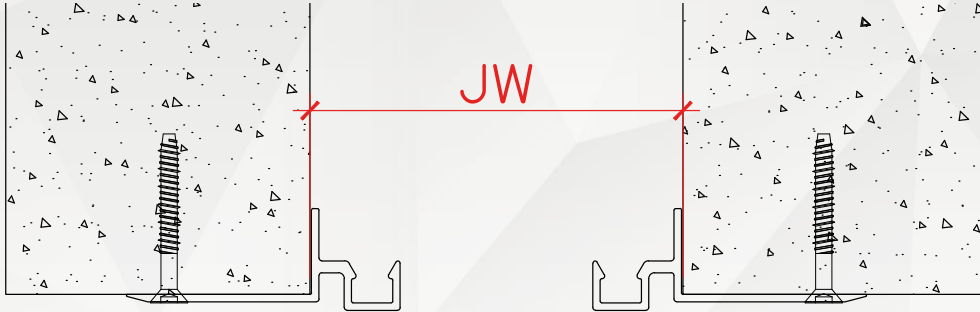

Figure 2.
10. Place the corresponding opposite base member in position on the substrate along the other edge of the joint. Refer to the details for proper positioning of the base member from the edge of the joint. Ensure that the base member is level and properly aligned. Attach the base member to the substrate using the applicable procedures in Step 4 through Step 8 (see Figure 2).